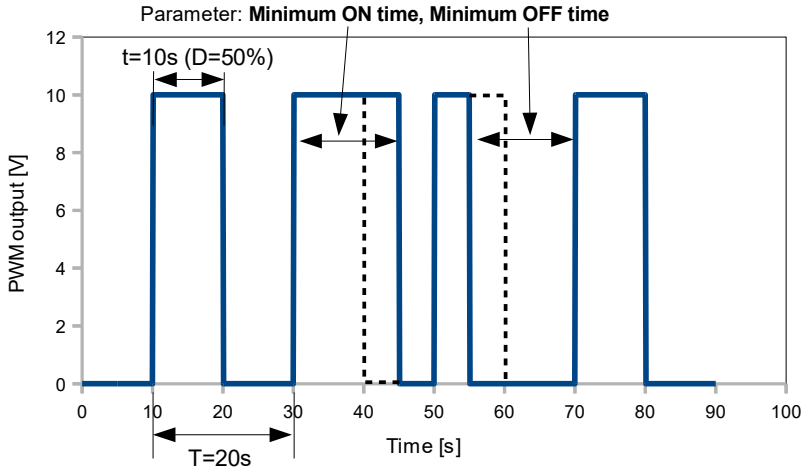

Fig. 7.94. Sample of output signal of SSR relay in PWM mode
- **Minimum ON time** - minimum duration of a high state (after switching to a high state, switching back is possible after **Minimum ON time**), see **Fig. 7.94**,
- **Minimum OFF time** - minimum duration of a low state (after switching to a low state, switching back is possible after **Minimum OFF time**), see **Fig. 7.94**,